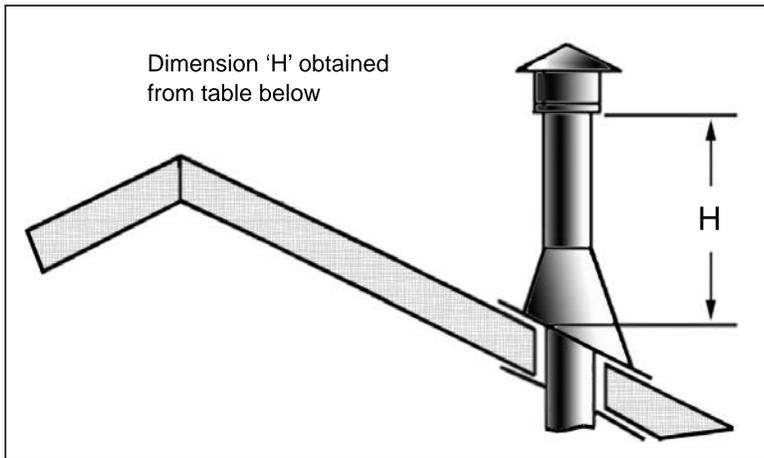

Figure 66: Height of Vertical Termination; Reference Table 9
- Step 4.** Measure roof pitch. Select the proper flashing and storm collar and determine the height above the roof (see Figure 66). A non-corrosive pipe material must be used for all exterior pipe lengths. Seal nail heads with silicone.
Table 9: Minimum 'H' for Figure 66.